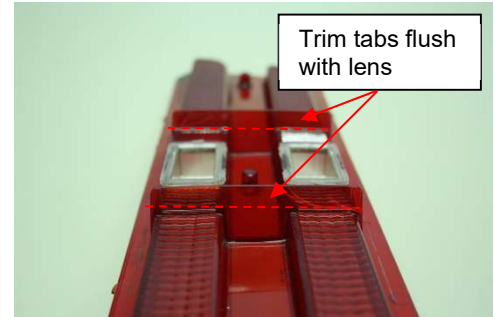

Figure 2
3. Trim off the protruding tabs on the inside of each taillight lens using a hacksaw. These tabs must be removed flush with the lens in order for the LED panels to pass through the center back up light chamber. (See Figure 2)